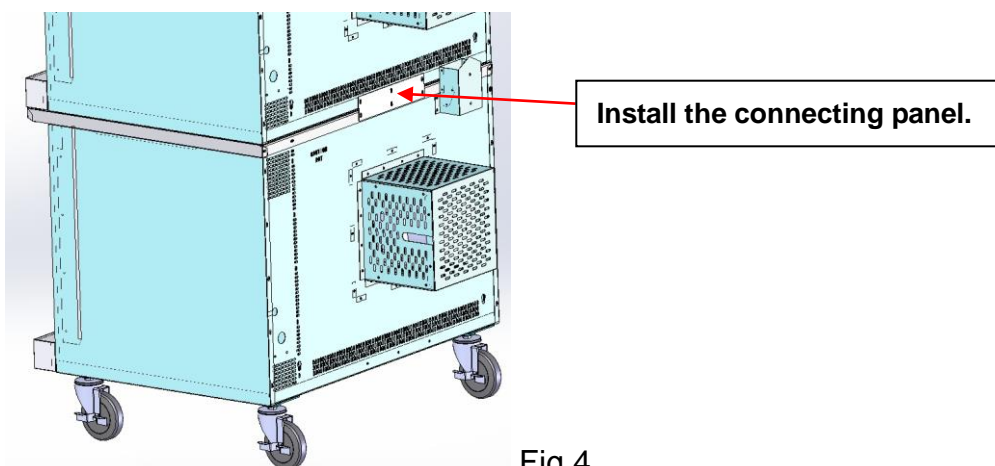

Fig.4
3. Fix the intersection area between the top and bottom appliance with a connecting panel as indicated in Fig.4.